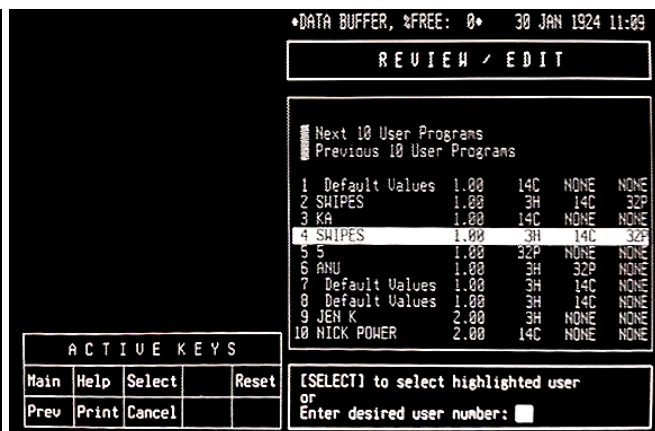

Figure 2. Selecting the user program “4 SWIPES” to edit its settings.
- 1.3 On the “REVIEW / EDIT” screen, use the arrow keys to highlight your counting protocol and press **SELECT** on the keyboard. In this guide, we are using protocol 4 SWIPES (Fig. 2).